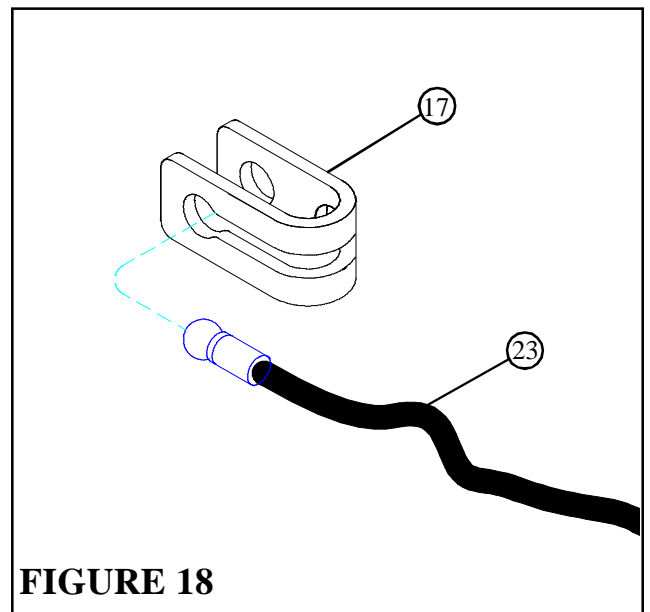

FIGURE 18
- Attach the to the KEYHOLE CLEVIS(17) to the CABLE (23) as shown in FIGURE 18.